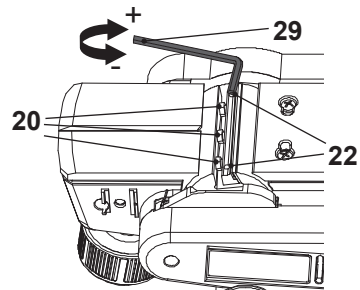

Fig. 18
The height is pre-set in the factory and normally there is no need to re-adjust. Nevertheless check whether the front plate (28) runs parallel to the roller edge occasionally. If necessary adjust the height with the hex key (29) (Fig. 18).
1. Loosen the hex bolts (20).
2. Turn the grub screws (22) clockwise to increase the height.
3. Turn the grub screws (22) anticlockwise to decrease the height.